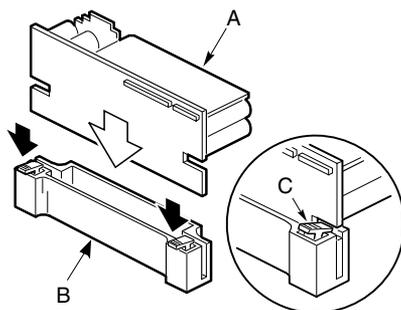

Figure 3-5 Installing a VRM
1. Using a small flat-head screwdriver, push the plastic ejector levers on each end of the connector away from the VRM to eject it out of the connector. See Figure 3-5 for the location of the ejector levers.
2. Orient the VRM in the VRM connector correctly. See Figure 3-5.